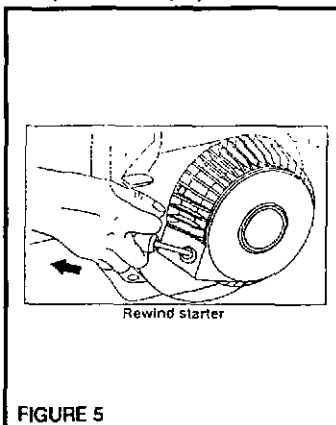

FIGURE 5
1. With choke closed (Fig. 5) grasp starter as illustrated in figure and pull out cord rapidly.